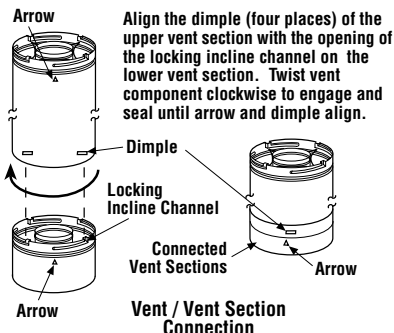

Figure 21
Push the vent component against the previous section until it fully engages, then twist the component clockwise running the dimples down and along the incline channels until they seat at the end of the channels. **This seating position is indicated by the alignment of the arrow and dimple as shown in Figure 21.**
Secure Vent SV4.5 direct vent system components are unitized concentric pipe components featuring positive twist lock connection, (refer to **Figure 21 on page 15**). All of the appliances covered in this document are fitted with collars having locking inclined channels. The dimpled end of the vent components fit over the appliance collar to create the positive twist lock connection.
- Other vent sections may be added to the previously installed section in accordance with the requirements of the vent tables. To add another vent component to a length of vent run, align the dimpled end of the component over the inclined channel end of the previously installed section, adjusting the radial alignment until the four locking dimples are aligned with the inlets of the four incline channels of the previous section. Push the vent component against the previous section until it fully engages, then twist the component clockwise running the dimples down and along the incline channels until they seat at the end of the channels. **This seating position is indicated by the alignment of the arrow and dimple as shown in Figure 21 on page 15.**